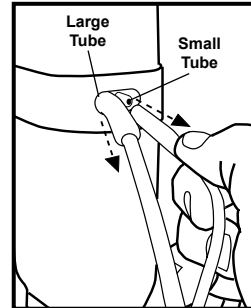

Figure 6
- Connect the proper size tubing to the appropriate post on the capsule. Push tubing firmly onto the posts (fig. 6).